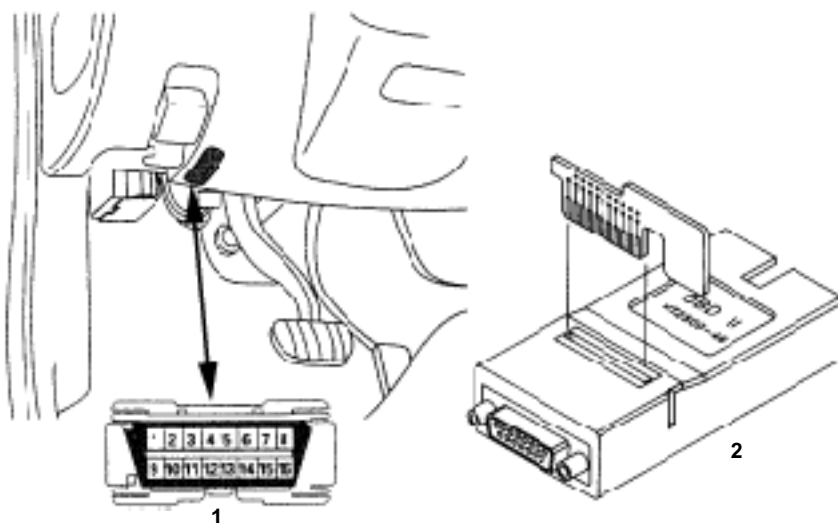

Figure 10-20 2003–06 Ascender, 2006 I-280 and I-350 ABS connector
- Connect the OBD-II adapter to the 16-pin connector (Figure 10-20).
Start codes by:	After bringing the vehicle to a complete stop, and making sure the brake pedal is not depressed, turn the ignition switch to the off position. Connect terminals 12 and 4 on the OBD-II 16-pin diagnostic link connector (Figure 10-20). Turn the ignition switch to the on position.